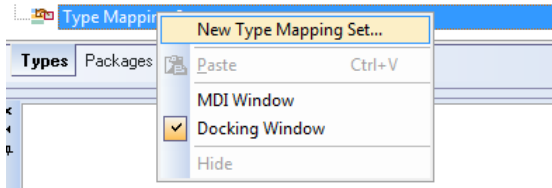

Figure 4-7 Type mapping set creation
- > Right click on the Type Mapping Sets library is done and “New Type Mapping Set...” is selected (see Figure 4-7).